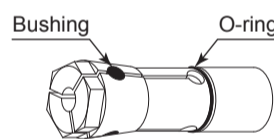

Fig. 5
- Before replacing the collet chuck, ensure that the Bushings (3 pcs.) and the O-ring (1 pc.) are properly and securely attached (Fig. 5). If any of these items are missing, install them before replacing the collet chuck.